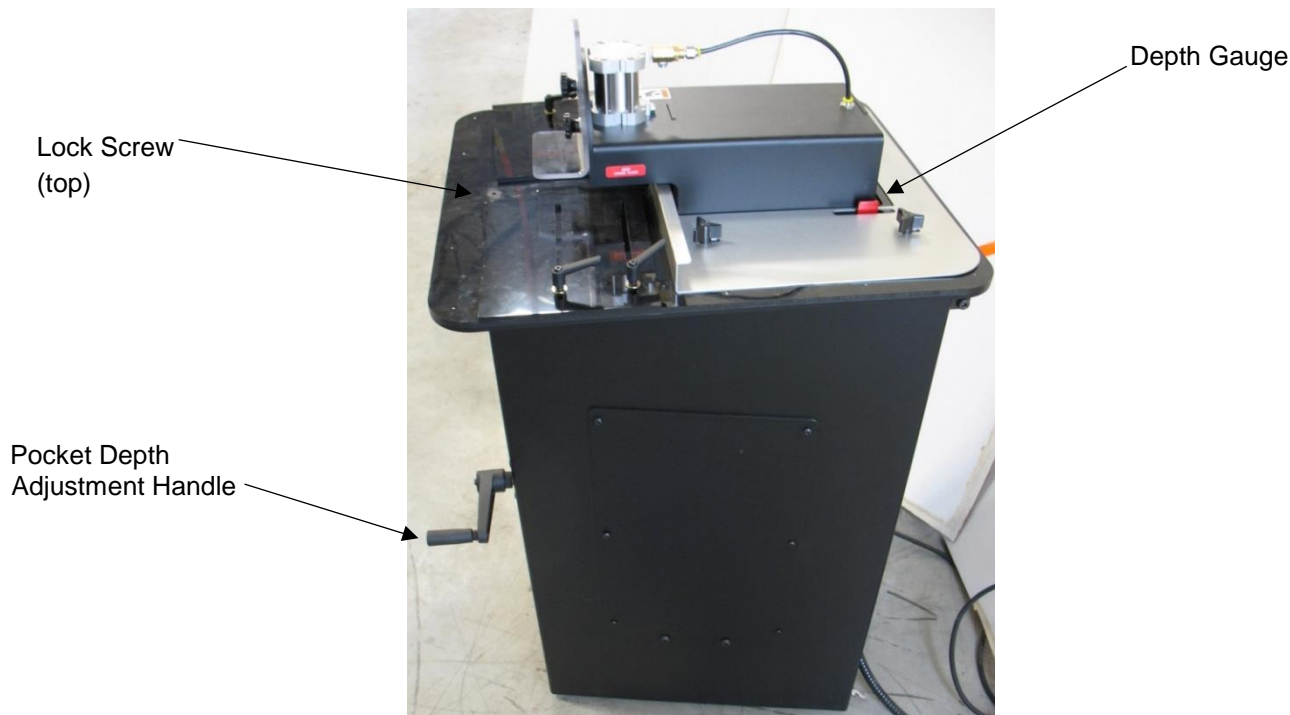

Figure 15: Depth Gauge
The *red* (Pocket) Depth Gauge (Fig. 15) is factory calibrated to indicate the approximate center of the screw depth (where the screw exits the stock being machined). The Depth Gauge can be recalibrated to indicate the depth of the pocket, depending on preferences and applications. The Depth Gauge automatically moves when the Pocket Depth Adjustment handle is adjusted. To calibrate the Depth Gauge:
2. Place test piece next to Depth Gauge (Fig. 15).
5. Remove lock screw from top of machine and open top (Fig. 15).
7. Loosen the two bolts holding the Depth Gauge (Fig. 15).